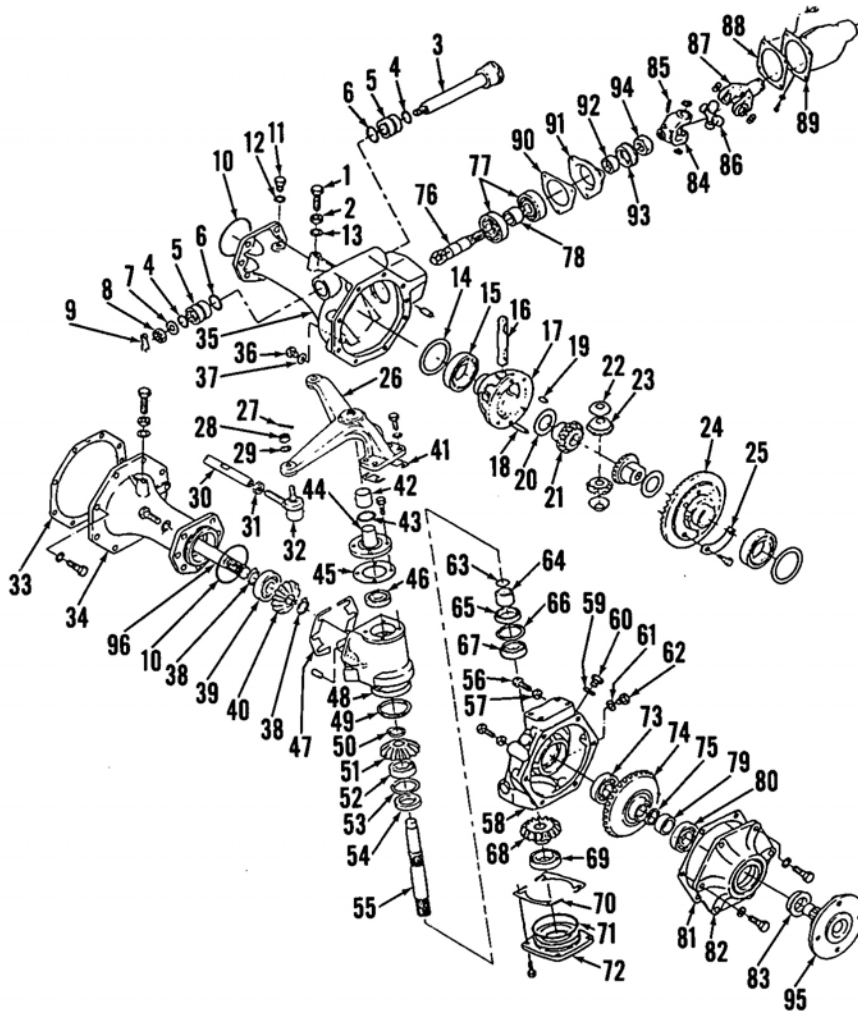
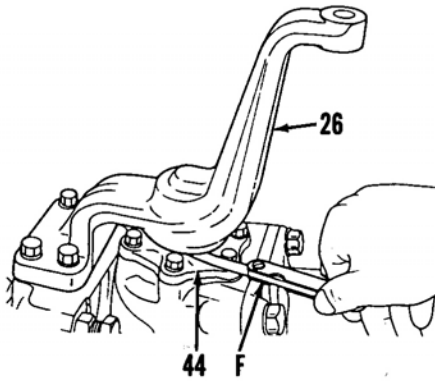
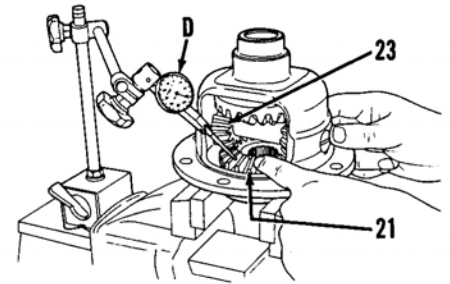
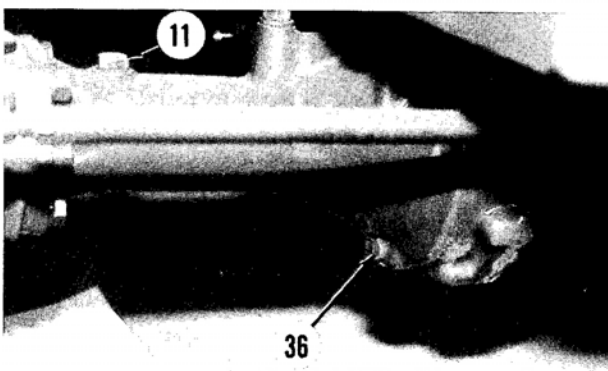

Fig. 5—Exploded view of front-wheel drive axle used on Model B7100HST-D.
Fig. 8 - View showing procedure for measuring clearance between steering arm (26) and support (44) using feeler gage (F). Refer to text.
Fig. 12 - View showing procedure for checking backlash between side gear (21) and spider gear (23) using dial indicator (D). Refer to text.
Fig. 9 - Note location of front-axle drain plug (36) and fill plug (11) used on Model B7100HST-D.
7. **R&R AND OVERHAUL.** Upper support (king pin) and bushing are accessible after removing steering arm (26 - Fig. 5). Outside diameter of support (44) end should be 25.000-25.033 mm (0.9843-0.9856 inch). Bushing (42) inside diameter should be 25.050-25.085 mm (0.9862-0.9876 inch). Clearance between bushing (42) and king pin (44) should be 0.017-0.085 mm (0.0007-0.0033 inch).
Front-wheel drive assembly includes drive shaft, housing, differential, axle shafts and axle hub assembly. Front-wheel drive power is supplied through transmission assembly and controlled by manually engaging or disengaging FWD select lever. Camber angle, caster angle and king pin inclination are non-adjustable. Rolling angle adjuster screw (1–Fig. 5) should be adjusted to a height of 25 mm (0.98 inch) measured from axle case (35) to top of screw head. Front wheel steering angle adjuster screw (56) (front and rear) should be adjusted to a length of 22 mm (0.86 inch) measured from outer drive housing (58) to top of screw head.
allow lubricant to drain into a suitable container. Detach tie rod end (32—Fig. 5) from steering arm (26). Remove cap screws securing gearcase (48) to axle case (34 or 35). Place a suitable drain pan under end of axle case, then lift complete outer drive assembly from axle case and place on a suitable work bench to complete disassembly. Note shims (47) located between axle case and gear-
gear (68) and bearing (69). Note shims (70). Using a suitable mallet, tap shaft (55) from bottom side to separate outer drive housing (58) from gearcase (48). Remove cap screws securing outer cover (82) to outer drive housing (58), then withdraw outer cover (82) assembly. Complete disassembly of components with reference to Fig. 5.
Tighten cap screws securing outer cover (82—Fig. 5) to outer drive housing (58) to 48-56 N·m (35-41 ft.-lbs.) torque. Tighten cap screws securing support cover (72) to outer drive housing (58) to 24-27 N·m (17-20 ft.-lbs.) torque. Tighten cap screws securing support (44) to gearcase (48) to 24-27 N·m (17-20 ft.-lbs.) torque. Tighten cap screws securing gearcase (48) to axle case (34 or 35) to 77-90 N·m (57-67 ft.-lbs.) torque.
Backlash between gears (40 and 51) and (68 and 74) should be 0.10-0.30 mm (0.004-0.012 inch). Adjustment shims (47 or 70) are available in thicknesses of 0.2, 0.3 and 0.5 mm (0.008, 0.012 and 0.020 inch). Clearance between steering arm (26) and support (44) should be 0-0.2 mm (0-0.008 inch) measured as shown in Fig. 8. Adjustment shims (41-Fig. 5) are available in thicknesses of 0.2, 0.3 and 0.5 mm (0.008, 0.012 and 0.020 inch).
14. R&R AND OVERHAUL. Remove outer cover, outer drive housing, gearcase and drive components as outlined in paragraph 13. Remove drain plug (36-Fig. 9) and allow lubricant to drain into a suitable container. Remove cap screws securing left axle case (34-Fig. 5), then separate axle cases (34 ar. 35). Use care not to allow differential assembly to fall free when axle cases are separated. Lift differential and bevel ring gear assembly (14 through 25) from
To separate bevel pinion assembly, place bevel pinion (76) in a suitable holding fixture, then remove nut (94) from pinion shaft. Complete disassembly with reference to Fig. 5.
Renew all components as needed. Bevel ring gear (24-Fig. 5) and bevel pinion (76) must be renewed as a matched set.
Reassembly is reverse order of disassembly. Lubricate components with a light film of SAE 80 gear lube prior to installation. Tighten cap screws securing bevel ring gear (24-Fig. 5) to differential case (17) to 29-34 N·m (22-25 ft.-lbs.), then bend tabs of lock plate (25) over to secure screws. Tighten
Shim (20-Fig. 5) is used to adjust backlash between side gear (21) and spider gear (23). Mount differential assembly in a suitable holding fixture and measure backlash as shown in Fig. 12. Recommended backlash is 0.20-0.25 mm (0.0079-0.0098 inch). Shims (20-Fig. 5) are available in thicknesses of 0.8, 1.0 and 1.2 mm (0.031, 0.039 and 0.047 inch). Shims (14) are used to adjust backlash between bevel pinion gear. Recommended backlash is 0.1-0.2 mm (0.004-0.008 inch). Shims (14) are available in thicknesses of 0.2, 0.3 and 0.5 mm (0.008, 0.012 and 0.020 inch). Recommended pinion shaft end play is zero. Shims are available to adjust mesh position. After adjustment, add shims under retainer plate until zero end play is attained.
Reassemble outer cover, outer drive housing, gearcase and drive components as outlined in paragraph 13. Remove plug (11-Fig. 9) and refill differential case with 1.5 liters (1.6 U.S. quarts) of SAE 80 gear lube. Reinstall and tighten plug (11).